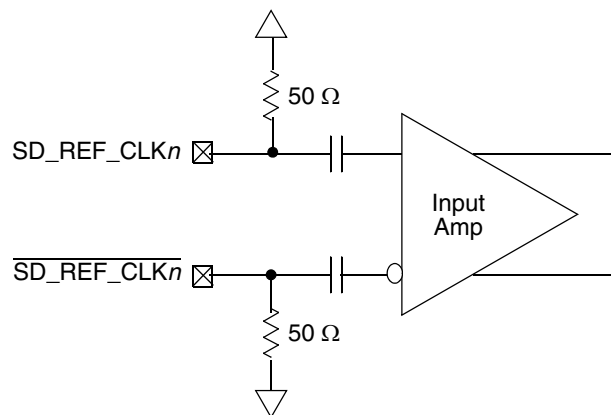

Figure 33. Receiver of SerDes Reference Clocks
- The  $SD\_REF\_CLKn$  and  $\overline{SD\_REF\_CLKn}$  are internally AC-coupled differential inputs as shown in Figure 33. Each differential clock input ( $SD\_REF\_CLKn$  or  $\overline{SD\_REF\_CLKn}$ ) has on-chip  $50\text{-}\Omega$  termination to SGND followed by on-chip AC-coupling.